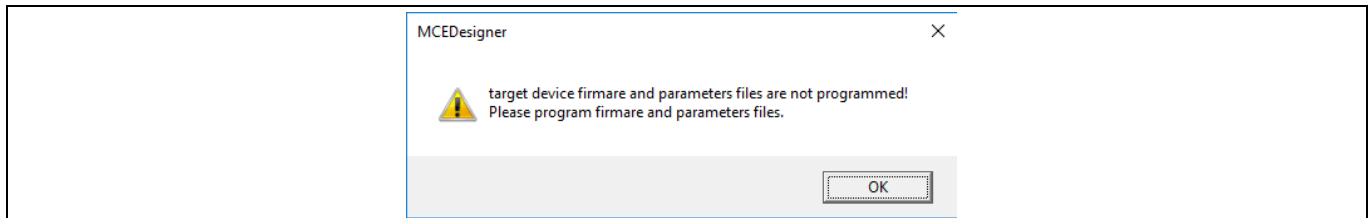

Figure 11 MCEDesigner warning message
- In case of blank IC: If the firmware has been erased from the IMC101T, a warning message will pop up saying “Target device firmware and parameters file are not programmed! Please program firmware and parameters file” (Figure 11). See step 9 on how to obtain/program firmware and parameters.